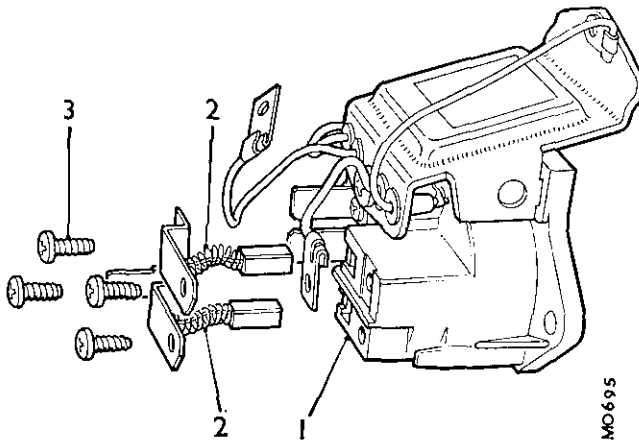

Fig. Nb.16
- (25) Check the brushes for wear by measuring the length of brush protruding beyond the brushbox moulding. If the length protruding is .2 in. (5 mm.) or less, the brush must be renewed.
- (26) Check that the brushes move freely in their holders. If a brush shows a tendency to stick, clean it with a petrol- (gasoline-)moistened cloth or, if necessary, polish the sides of the brush with a fine file.
- (27) Check the brush spring pressure using a push-type spring gauge. The gauge should register 7 to 10 oz. (198 to 283 gm.) when the brush is pushed back until its face is flush with the housing. If the gauge reading is outside the limits given, renew the brush assembly, as shown in Fig. Nb.16.